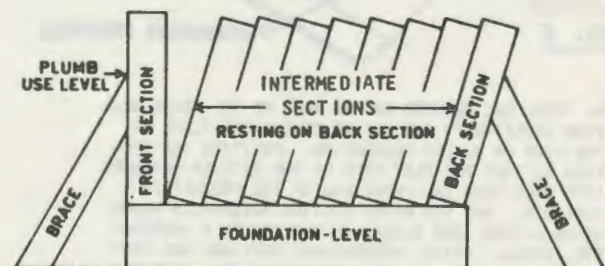

FIGURE NO. 4
3. AS WITH THE REAR INTERMEDIATE SECTIONS, FILL THE POCKETS OF THE FORWARD INTERMEDIATE SECTIONS (3343) WITH INSULATING CEMENT FRONT AND BACK AND PLACE IN POSITION ON BOILER FOUNDATION. REST THE FRONT INTERMEDIATE SECTIONS AGAINST THE REAR INTERMEDIATE SECTIONS. SEE FIGURES NO. 4 AND NO. 5.